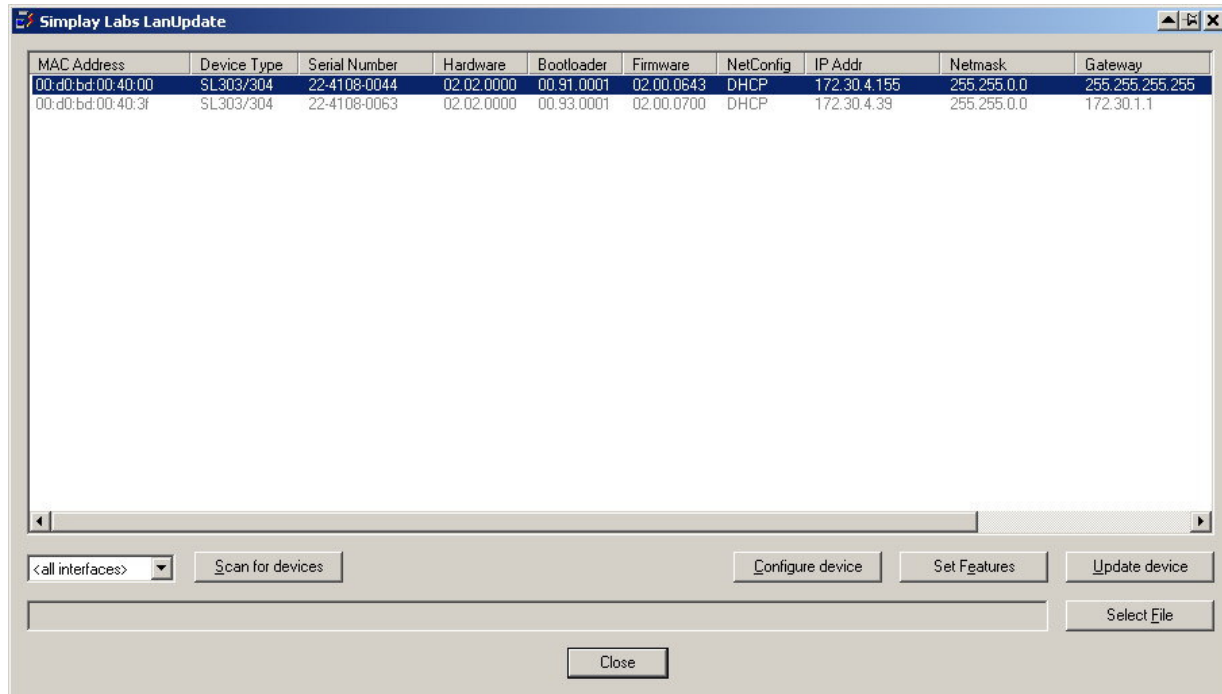

Figure 9: LAN Update Application, main dialog
- Press the button “Scan for devices” and select the device to be updated (Figure 9)
- Press the button “Scan for devices” and select the device that shall be configured (Figure 9)